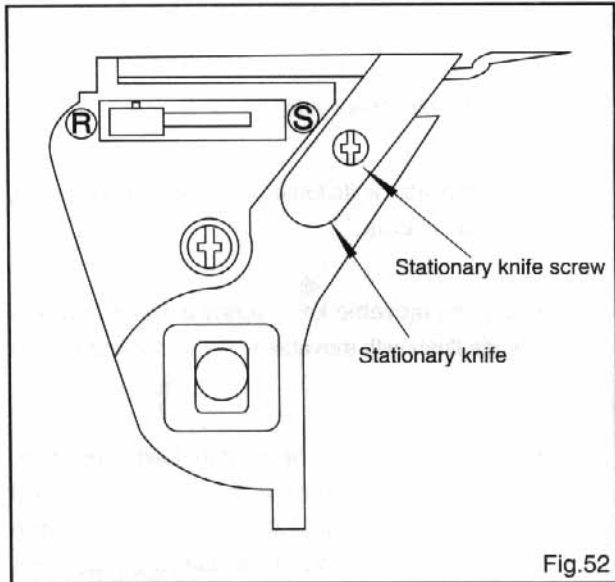

Fig.52
- Loosen stationary knife screw and remove stationary knife. (Fig. 52)